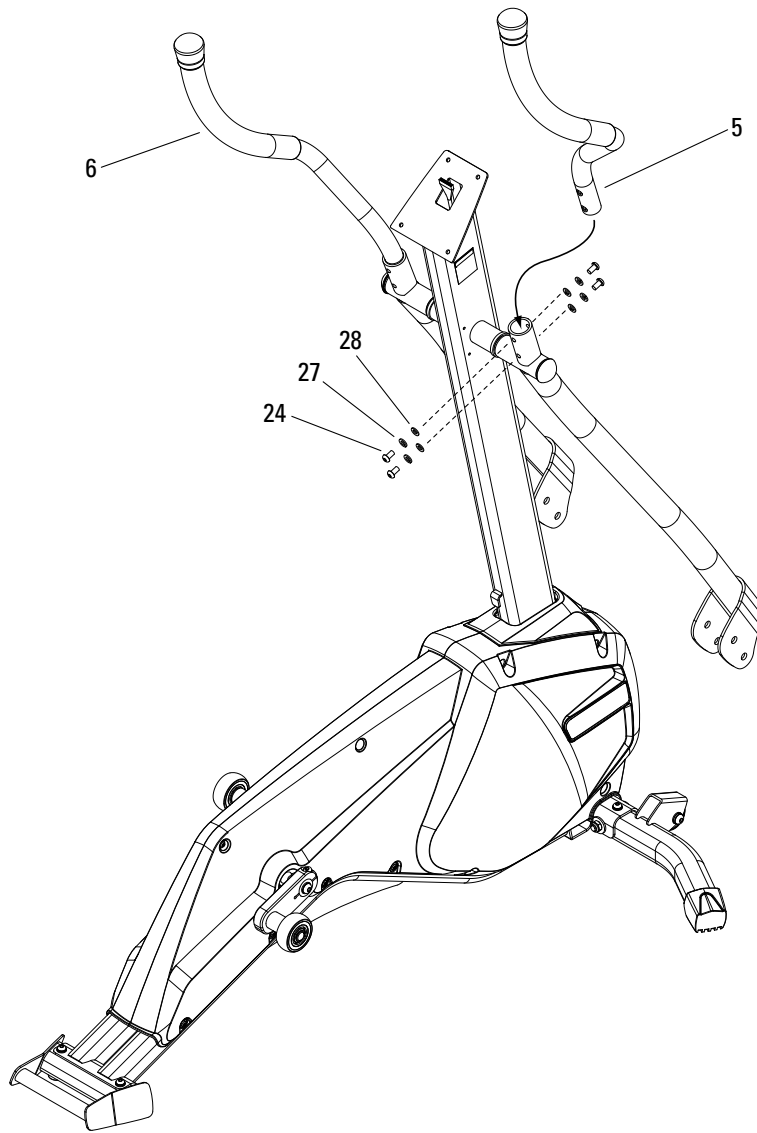

Figure 5b
- 5-4** Put the end of the Handlebar into the top of the Swing Arm (Figure 5b). Make sure that the bolt holes are aligned.
- 5-5** Install four M8 x 20 Button Head Bolts, M8 Spring Lock Washers and M8 Flat Washers (Figure 5b). Tighten the hardware.